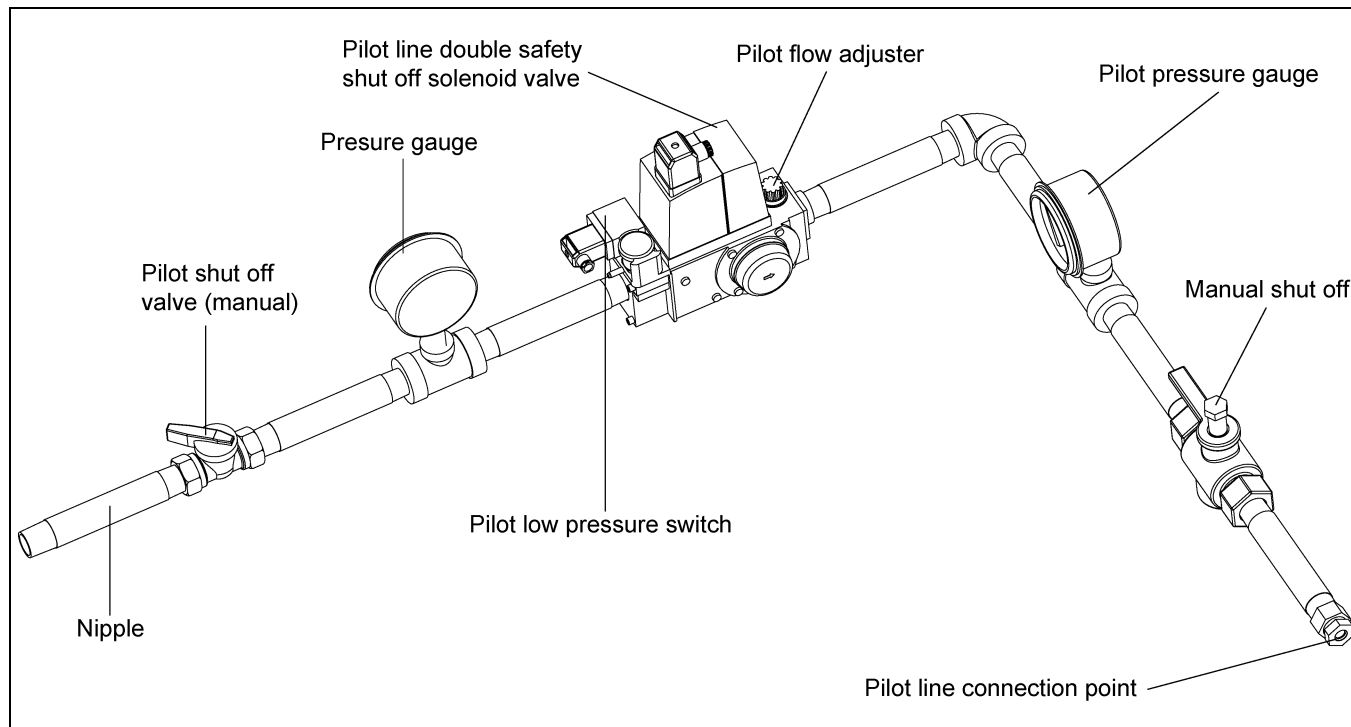

Figure 3D
3. Pressure set with pilot flow adjuster on pilot valve (See Figure 3D on Page 18) read at pilot gauge. (See Figure 3D on Page 18).
- c. Close pilot line valve. (See Figure 3D on Page 18.)
- a. Open pilot valve. (See Figure 3D on Page 18.)